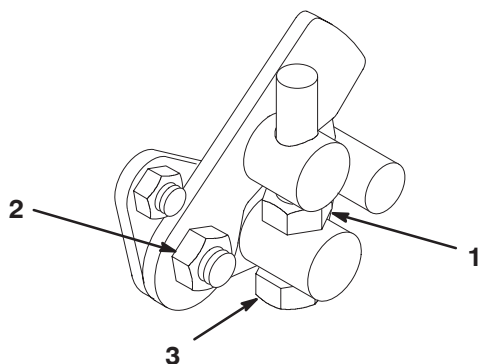

Figure 54
1. Loosen the jam nut on the trunnion capscrew (Fig. 54).
4. Tighten the jam nut on the trunnion capscrew and the nut on the pedal pivot to lock the adjustment (Fig. 54). Check the adjustment and adjust as required.